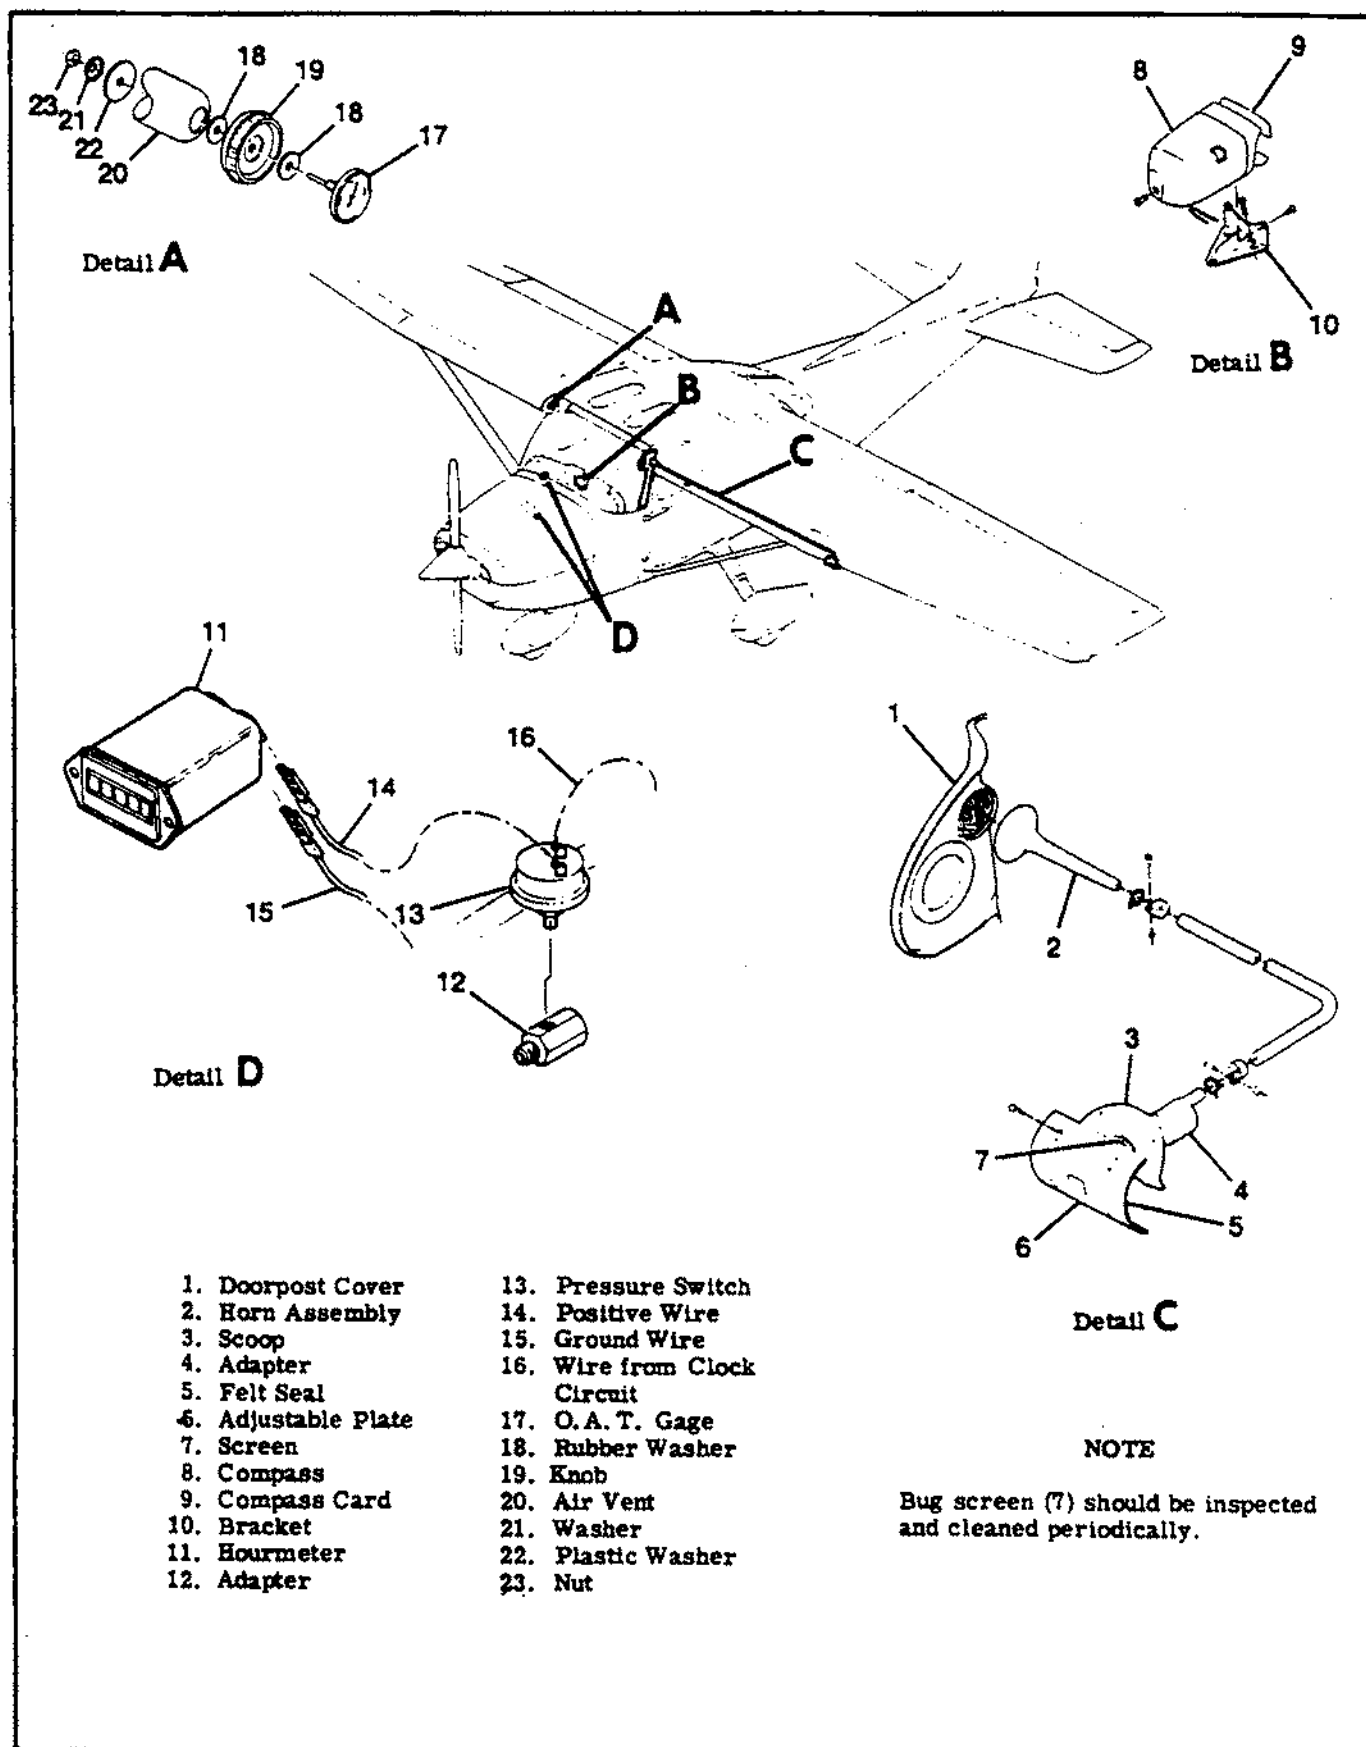

Figure 15-5. Miscellaneous Instruments and Stall Warning System
- 15-52. HOURMETER. (See figure 15-5.)
15-56. REMOVAL AND INSTALLATION. See figure 15-5 for removal and installation.
15-59. REMOVAL AND INSTALLATION. Refer to figure 15-5 for removal and installation.
15-66. OUTSIDE AIR TEMPERATURE GAGE (See figure 15-5).